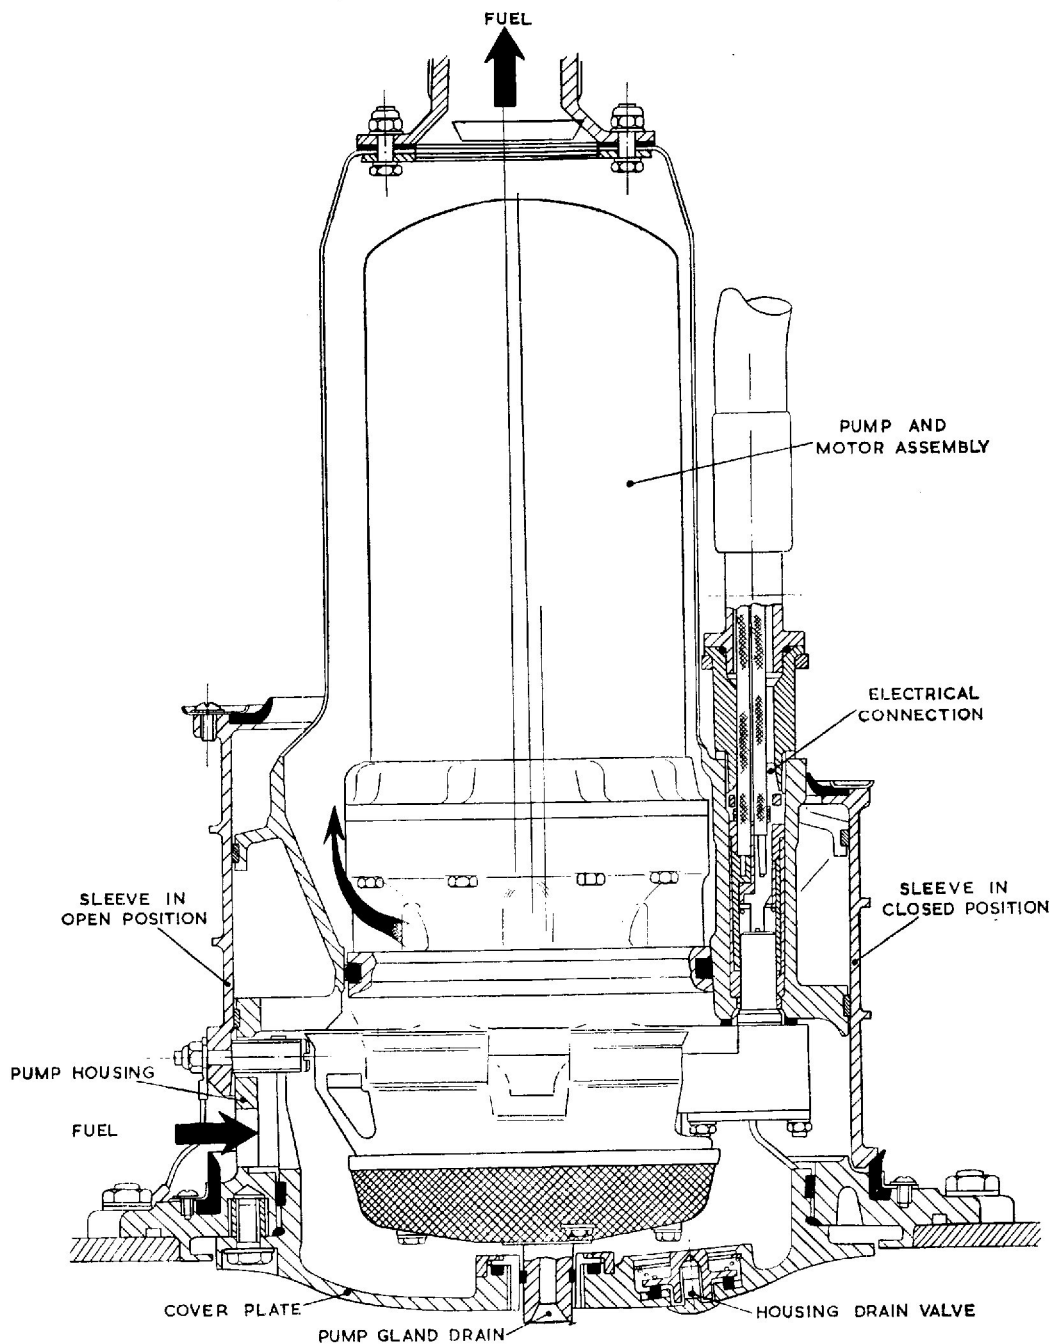

Fig. 4. Sectional view of pump and sleeved housing
14. The sleeved housing assembly is designed for use with the pump and in principle form an envelope over the fuel pump. It is fitted with a sleeve valve which, when required, can be closed to allow the pump to be withdrawn from the tank without the necessity of previously emptying the tank of fuel. Fig. 4 shows a sectional view of the sleeved housing illustrating the sleeve of the housing in both the open and closed position. When the sleeve of the housing is in the closed position for pump removal, the fuel left in the pump housing can be drained off by means of a spring loaded drain valve and plug, positioned in the bottom of the housing cover plate. The sleeved housing is not supplied as part of the pump.